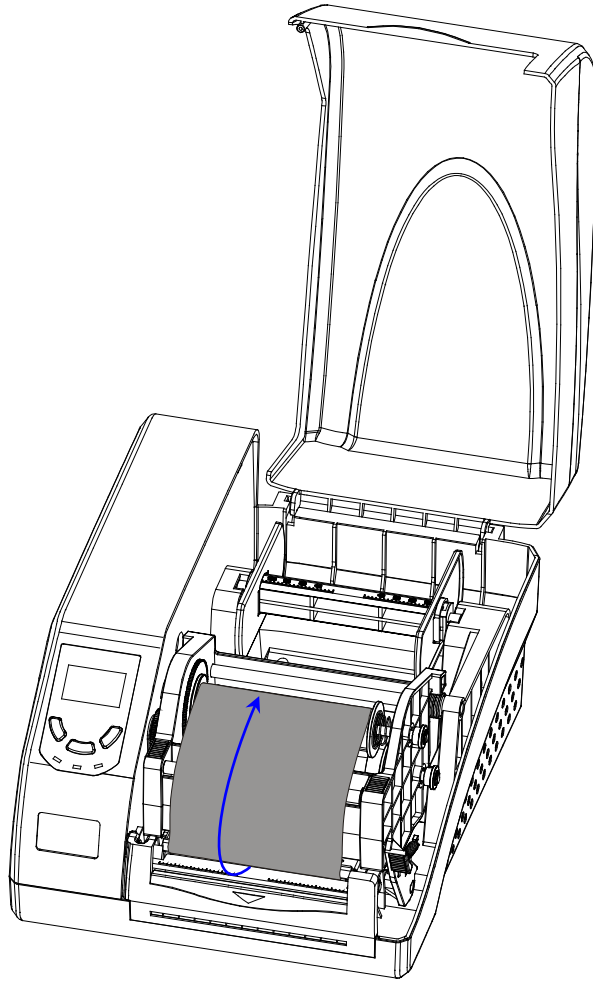

Figure 5-6
7. Load the core into the Ribbon Take-Up area (see Figure 5-6).